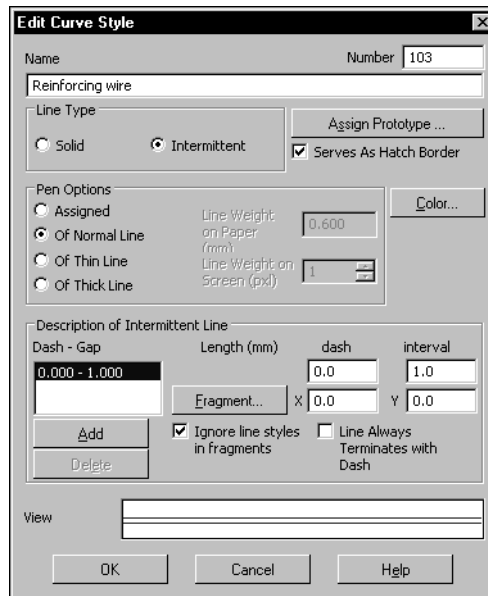

Fig. 7.10. Settings of line style Oil-proof Capping
- 4.12. Customizing of a new style is completed (Fig. 7.10). Click the **OK** button in the Line Style Creation dialog.